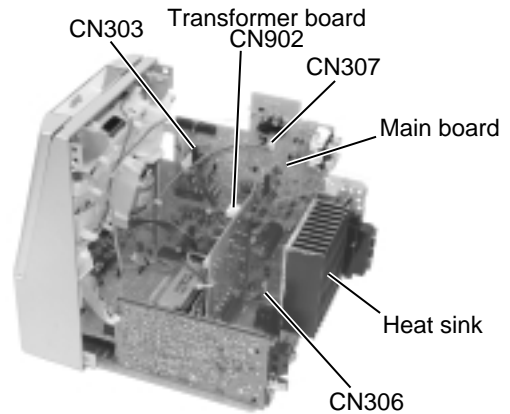

Fig.7
**■Removing the main board / the heat sink (See Fig.7 to 9)**